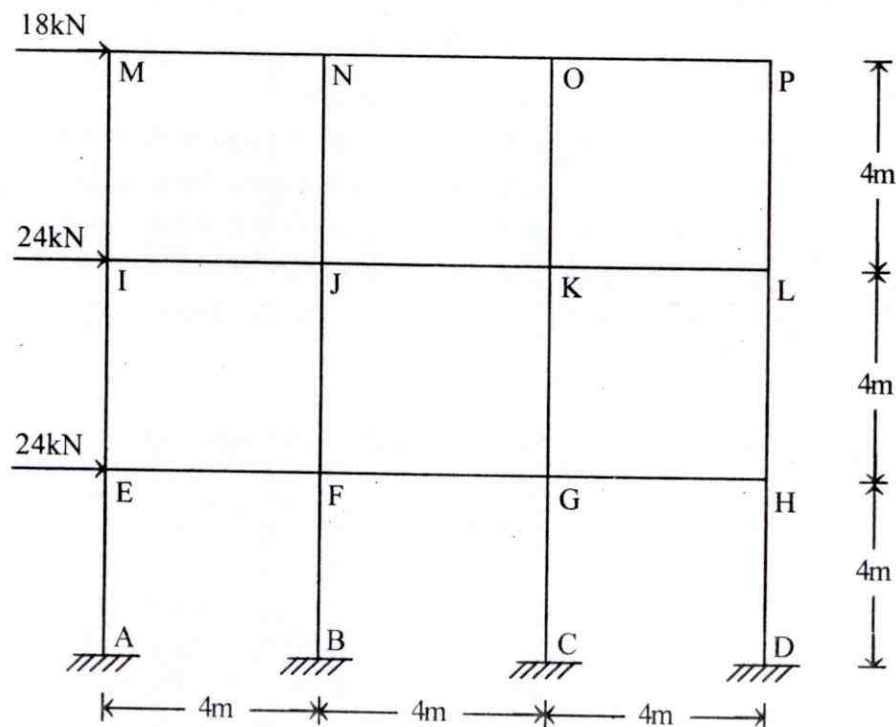

Fig.9
5. A building frame consists of three equal bays of 4m width and height of each storey is 4m. Find out wind moments, shears and direct forces in all columns and girders using portal method. Also mention the assumptions used in portal method fig.9. (16)